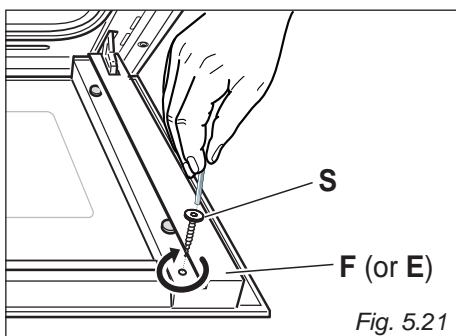

Fig. 5.21
- Refit the hex screw "S" on left "E" or right "F" slide guide, above the top edge of the inner glass (fig. 5.21).